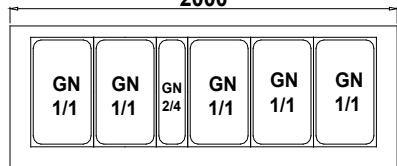

Fig.2 Layout of GN containers
- Place empty GN containers in the chamber according to Fig.2 (p.8)